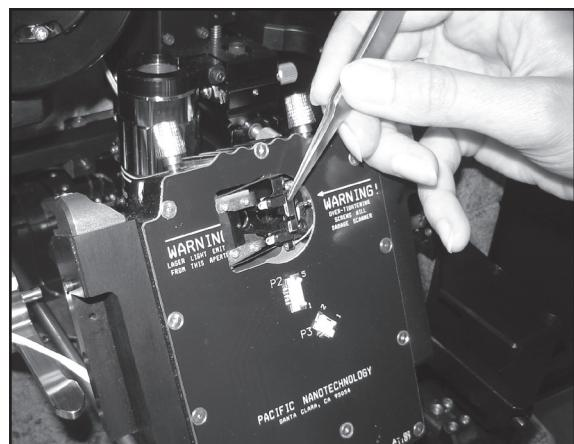

Figure 3.17: Mounted Probe
- Use tweezers to push the metal plate flush against the “L” as shown in Figure 3.17.